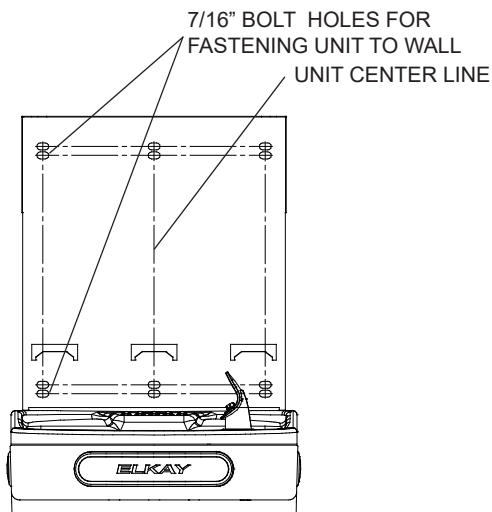

Fig. 3
- 2) **Remove wall mounting plate** from Bottle Filler. Place wall plate against wall on top of basin. Center the wall plate side to side with the basin. Mark the six (6) mounting holes with a pencil (See Fig. 3 Pg. 4).
- 4) **Install wall mounting plate** to wall using six (6) 7/16" obround mounting holes (mounting bolts not included) (See Fig. 3 Pg. 4). Use appropriate fasteners for your wall type.